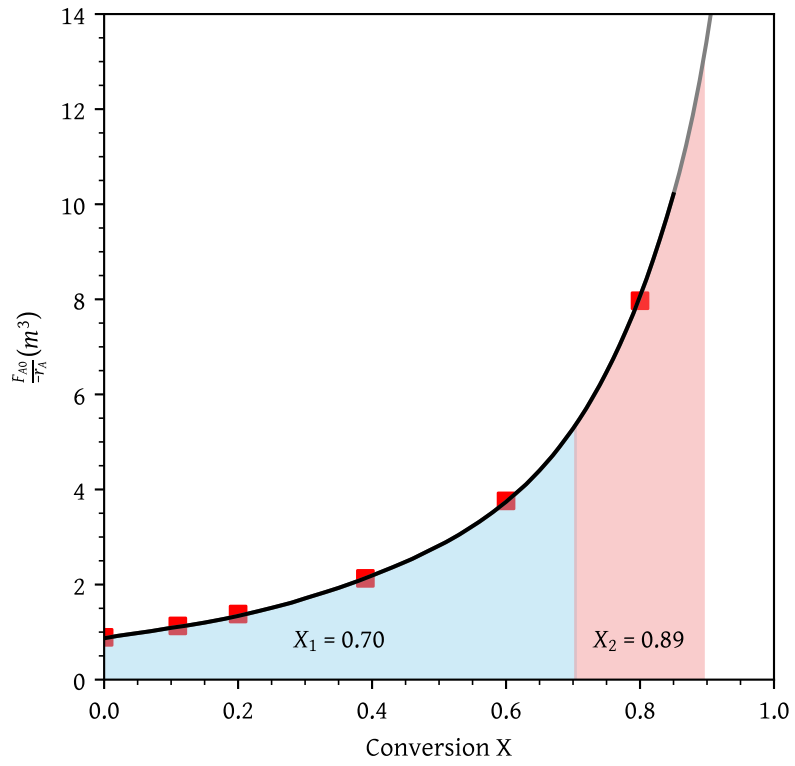

Figure 4: Conversion from two PFR in series
- (b) Two PFRs in series (Figure 4).